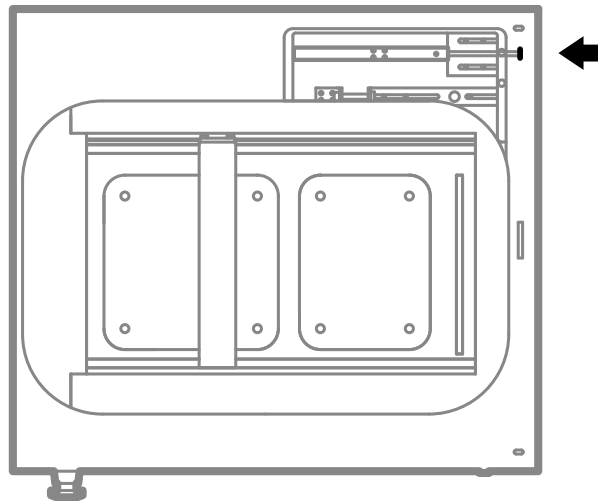

Fig. 13.81 Location of the tensioning bolt.
19. Through the inspection opening on the right side of the printer, tighten or loosen the marked bolt with a 10 [mm] socket wrench (fig. 13.81). Tightening (↻) will increase the tension (↑Hz), while loosening (↻) will decrease it (↓Hz).